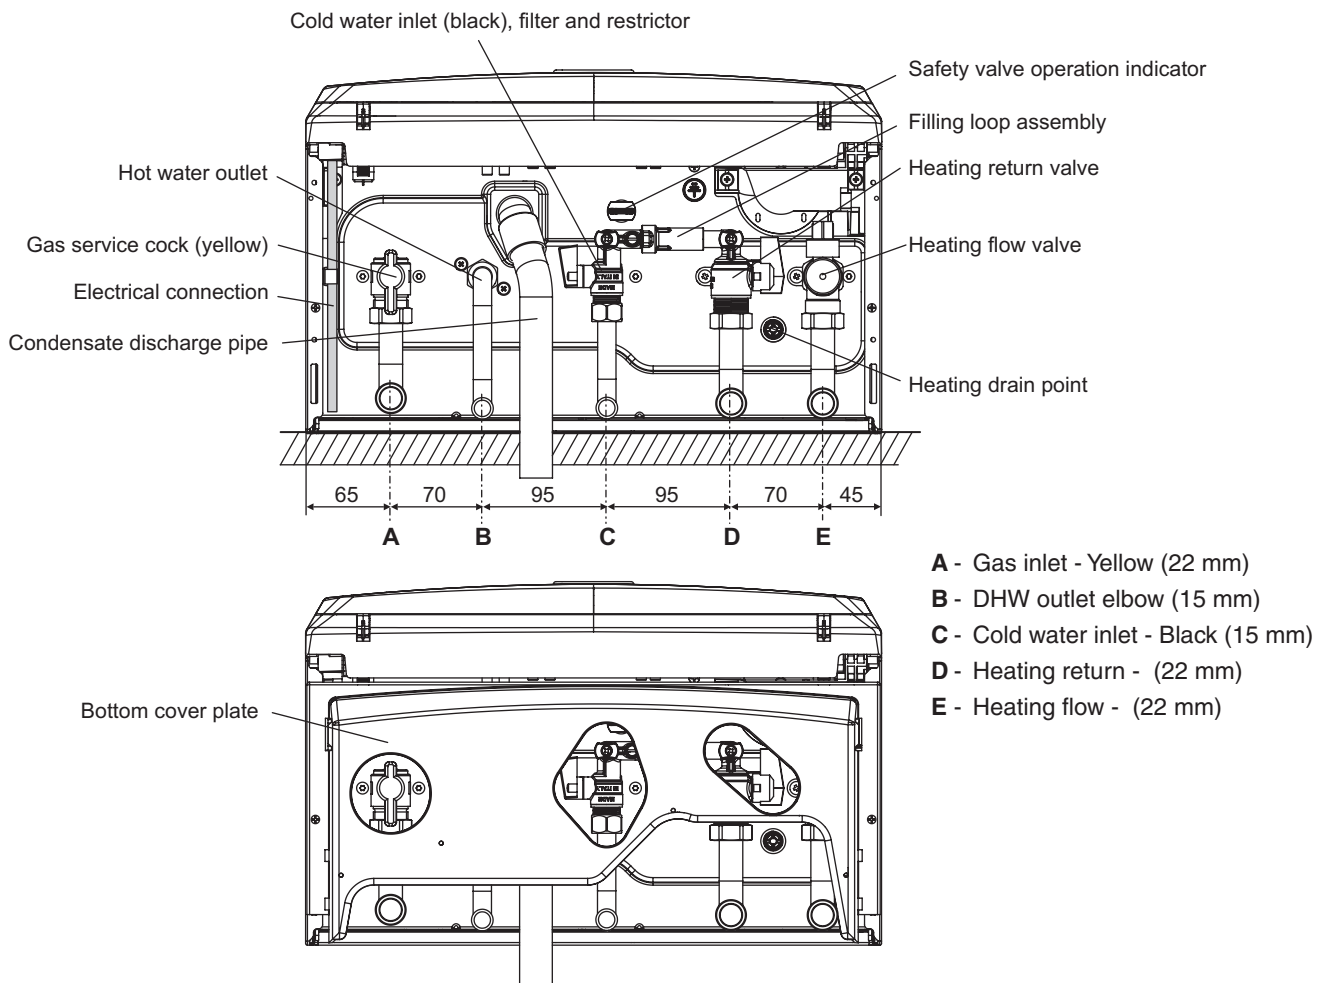

Fig. 4.4
4.5 CONNECT THE PIPEWORK - Fig. 4.4
2. Fit the valves to the boiler connections as shown in Fig. 4.4 - note the colours of the operating levers.
4. Connect the flexible condensate pipe to the rubber connector as shown in Fig. 4.4. Using the adaptor supplied, connect the flexible pipe to the condensate drain. Ensure that the condensate discharge pipe is as required in Section 3.10.